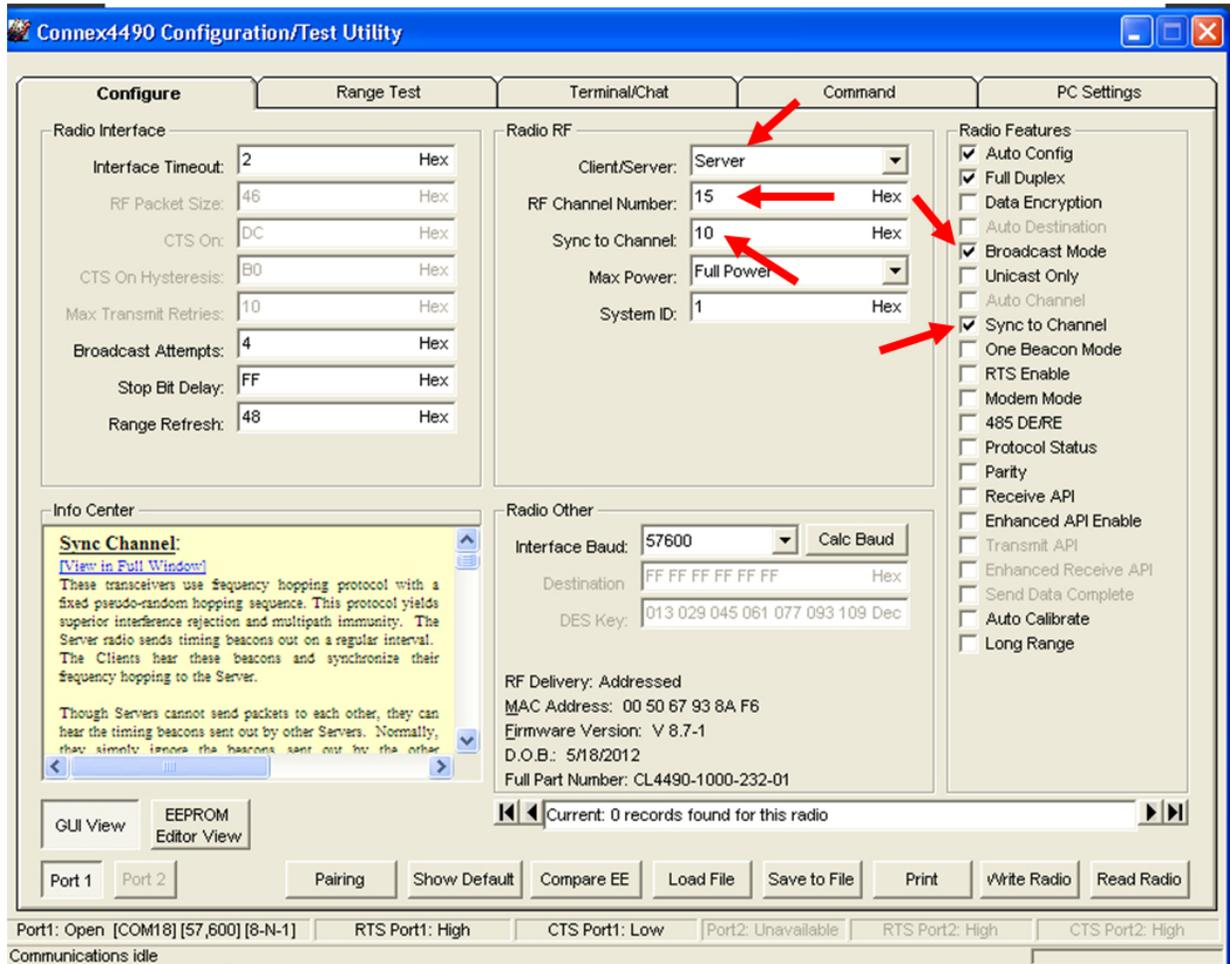

Figure 7: Server #2 settings
10. Configure server #2 as *Server* and *Broadcast Mode* with an RF Channel Number at least 4-5 steps above the RF Channel Number of the Hop Master. Under the *Radio Features* section, check the **Sync to Channel** box and in the *Radio RF* section, set the Sync to Channel to the RF channel of the Hop Master (Figure 7). Click **Write Radio** to write the changes to the radio's EEPROM.